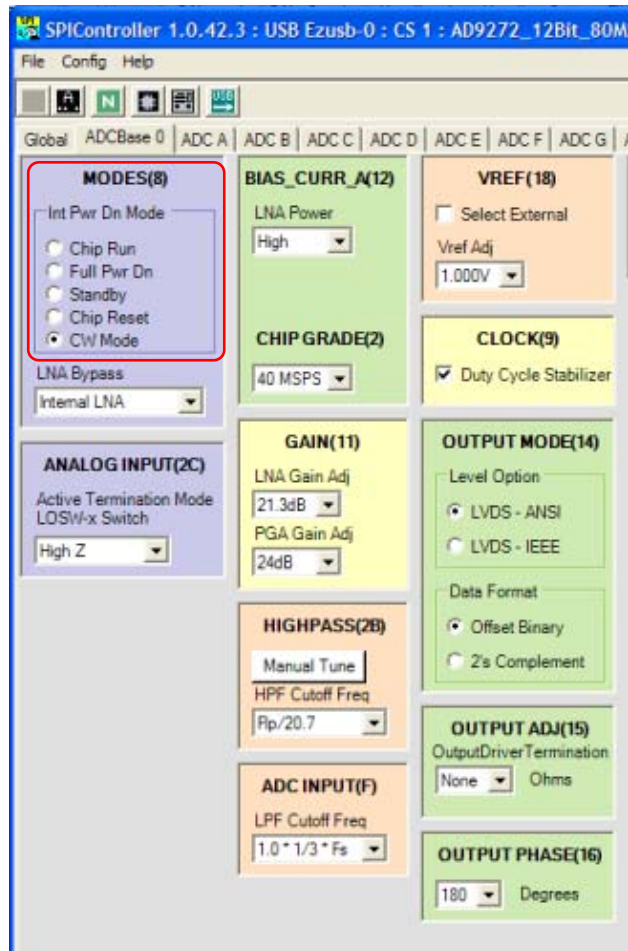

Figure 18. SPI Controller, MODES(8) Box
6. In the **ADCBase 0** tab of the SPI Controller, find the **MODES(8)** box. Select the **CW Mode** option (see Figure 18).